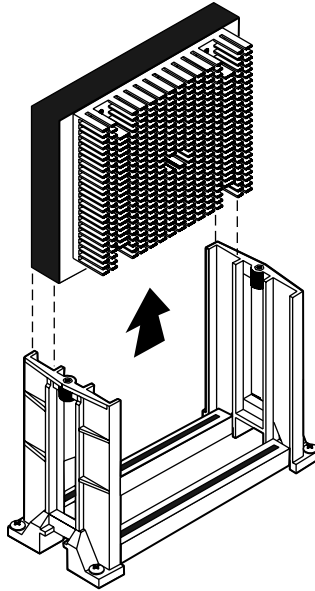

Figure 12: Removing the Processor
4. Lift the cartridge up and away from the system board. See Figure 12.